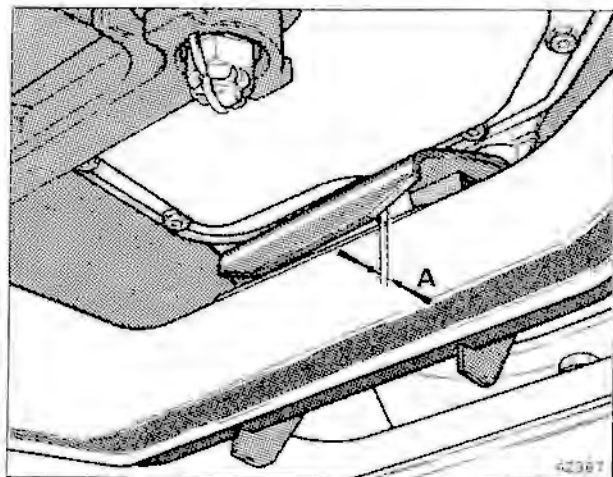

Fig. H3-11 Front engine mount setting
4. As shown in figure H3-11 the distance between the front engine mount stop plate and the bracket must be set at between 1,5 mm and 2,2 mm (0.060 in and 0.090 in) when all the operations are completed.